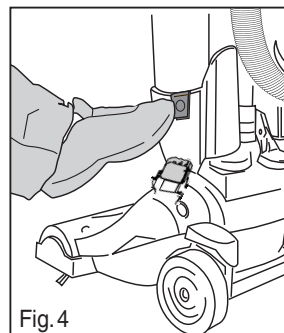

Fig. 4
- To store, press switch to retract cord (Fig. 4).